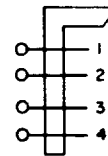

Fig. 10—415A Plug
**2.10 415A:** The 415A plug (Fig. 10) consists of a metal frame containing four spring-loaded contact plungers for making contact with terminals on terminal strips and a metal sliding arm designed to fit over the clamping strip. The plungers are connected to the terminal screws and are designed for connection to the P4L, P4R, and W4J cords. This plug is used with the distributing frame terminal strips.